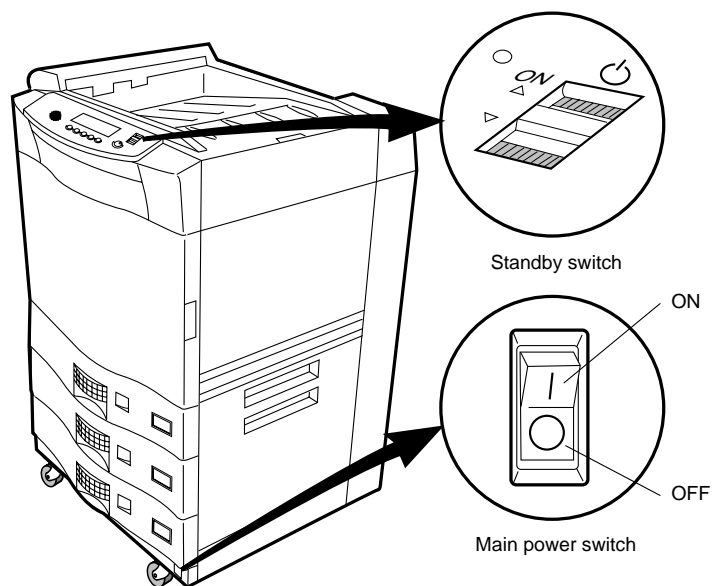

Figure 2-41 Standby Switch and Main Power Switch
3. Locate the main power switch and standby switch as shown in Figure 2-41.